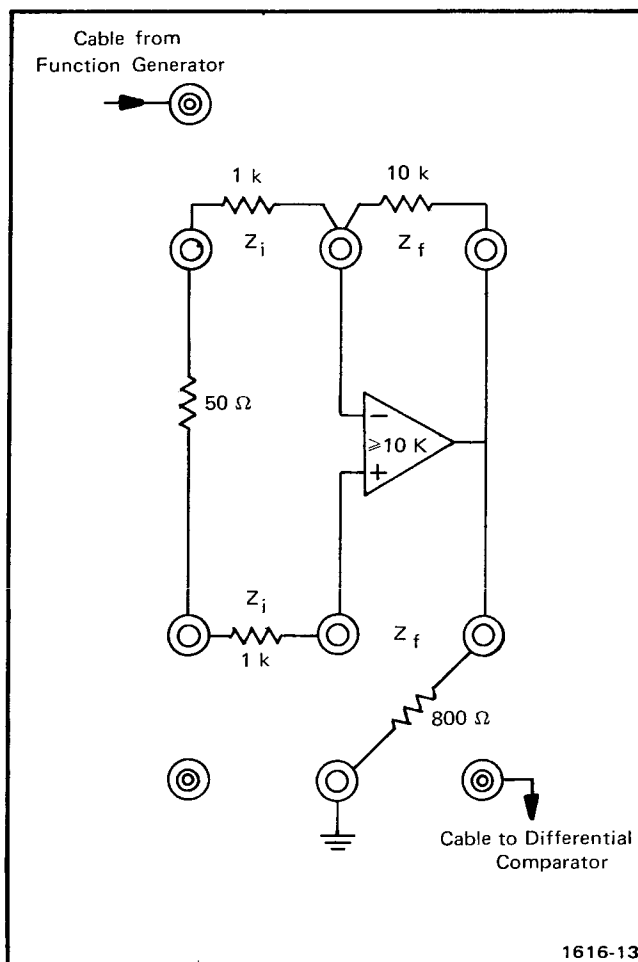

Fig. 2-4. Operational amplifier connected to check Slew Rate.
b. Connect a 50 Ω resistor between the AM 501 input terminals as illustrated in Fig. 2-4.